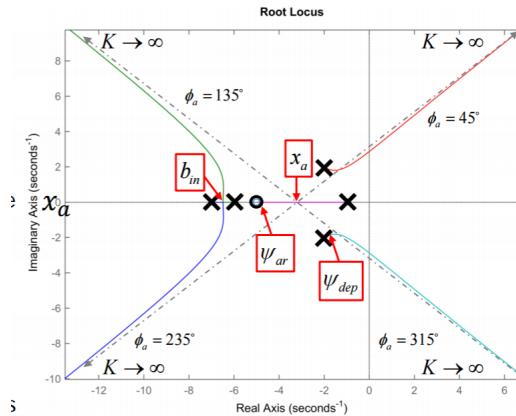

Figure 6.4: Root-locus plot of arbitrary system.
Consider, for example, the root-locus plot of a certain system, as shown in figure 6.4. It's a bit overwhelming at first, but let me guide you through it, step by step:
1. Root loci only exist on the real axis (the horizontal axis) to the left of an odd number of real axis poles or zeroes. What do I mean with this exactly? Look at figure 6.4: on the real axis, the pole on the horizontal axis closest to the origin is the first pole/zero on the horizontal axis. The zero to the left of it is the second pole/zero on the horizontal axis. The pole to the left of that one is the third pole/zero on the horizontal axis and the pole to the left of that one is the fourth pole/zero on the horizontal axis. We see that there is a root locus to the left of the first pole/zero on the horizontal axis (namely the purple line), and to the left of the third pole/zero on this axis (namely the green and blue lines), but not to the left of the second pole/zero or fourth pole/zero. This is no coincidence: this is always the case: when counting from the right, there will only be root loci to the left of odd-numbered poles/zeros (doesn't matter whether they are poles or zeroes).
5. From the complex plane, the root-locus enters the real axis in break-away points (or break-in points, different name for same thing), as denoted by b_{in} in figure 6.4. You can calculate these using Matlab/Python.